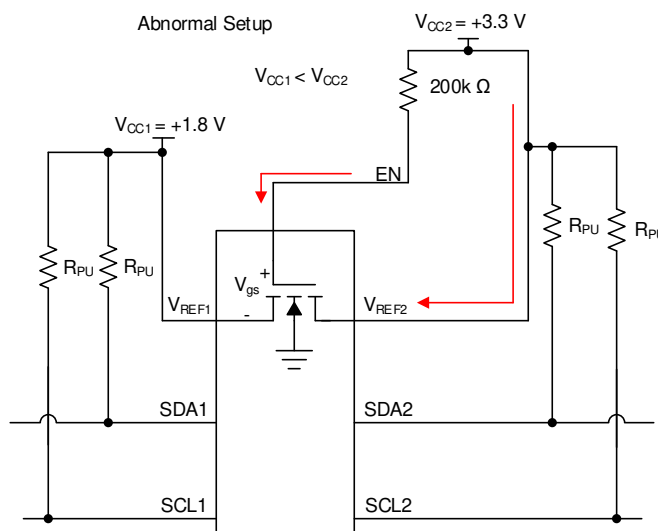

Figure 7-2. Abnormal Setup
(1) Guaranteed by simulation, not tested in production
(2) Translating Down: the high-voltage side driving toward the low-voltage side. See Fig 7.2 *Direct Propagation Measurement*
(2) Translating up: the low-voltage side driving toward the high-voltage side. See Fig 7.2 *Direct Propagation Measurement*
current such as in Figure 7-2. This effectively looks like a low impedance path for current to travel through and potentially break the pass FET if the current flowing through the pass FET is larger than the absolute maximum continuous channel current specified in the Absolute Maximum Ratings. The continuous channel current is larger with a higher voltage difference between  $V_{CC1}$  and  $V_{CC2}$ .
Figure 7-2 shows an improper set up. If  $V_{CC2}$  is larger than  $V_{CC1}$  but less than  $V_{th}$ , the impedance between  $V_{CC1}$  and  $V_{CC2}$  is high resulting in a low drain to source current, which does not cause damage to the device. Concern arises when  $V_{CC2}$  becomes larger than  $V_{CC1}$  by  $V_{th}$ . During this event, the NFET turns on and begin to conduct current. This current is dependent on the gate to source voltage and drain to source voltage.